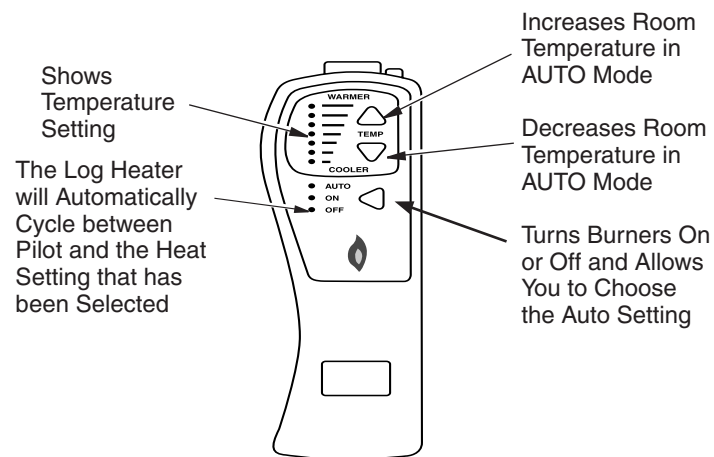

Figure 21 - Thermostat Hand-Held Remote Control Unit Selections (GHRCTB Only)
- 2a. Press the AUTO/ON/OFF button on the hand-held remote control (see Figure 21). The lights to the left of the button will show AUTO, ON, or OFF.